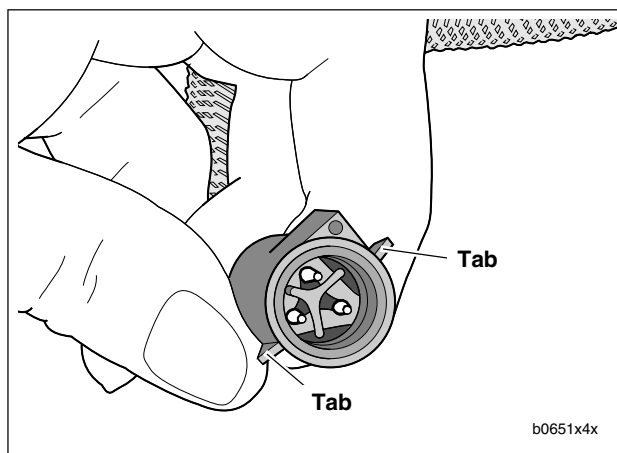

Figure 4-82. Tabs on TP Sensor Connector [88A]
4. See Figure 4-82. Attach throttle position sensor connector [88]. Slots on female connector [88B] must fully engage tabs on male connector housing [88A].